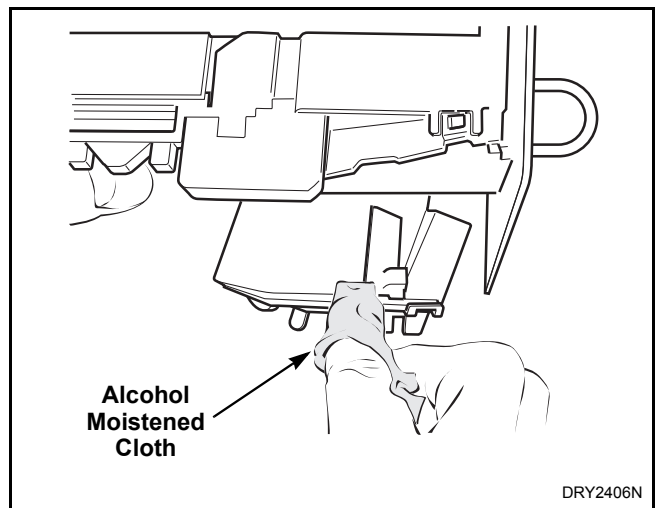

Figure 30
- e. Clean residue from coin rail with an alcohol moistened cloth. Refer to *Figure 30*.